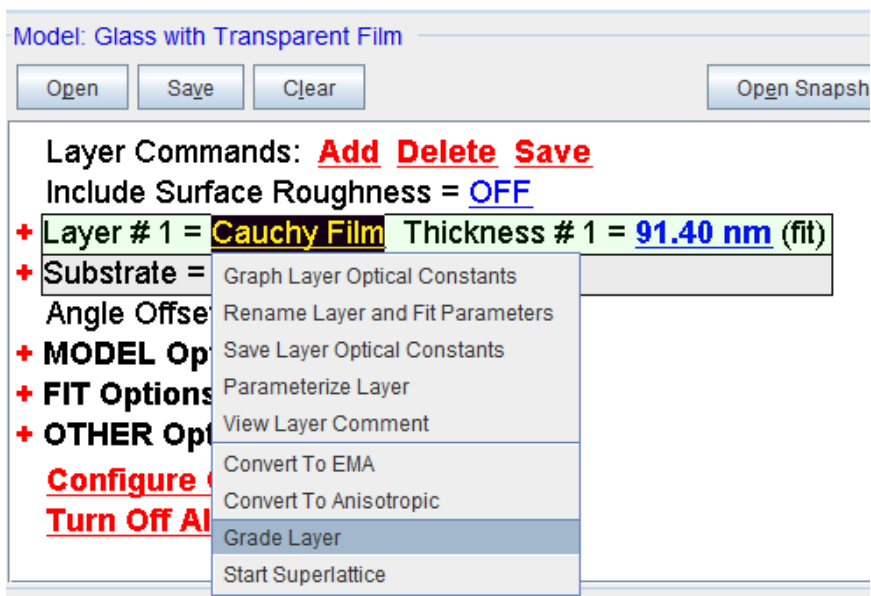

Figure 3-54. Right-click on Cauchy Film to access drop-down menu, then choose to “Grade Layer”.
- (✓) on the name “Cauchy Film” of Layer #1. You should see a drop-down menu, as shown in Figure 3-54. Choose “Grade Layer”.